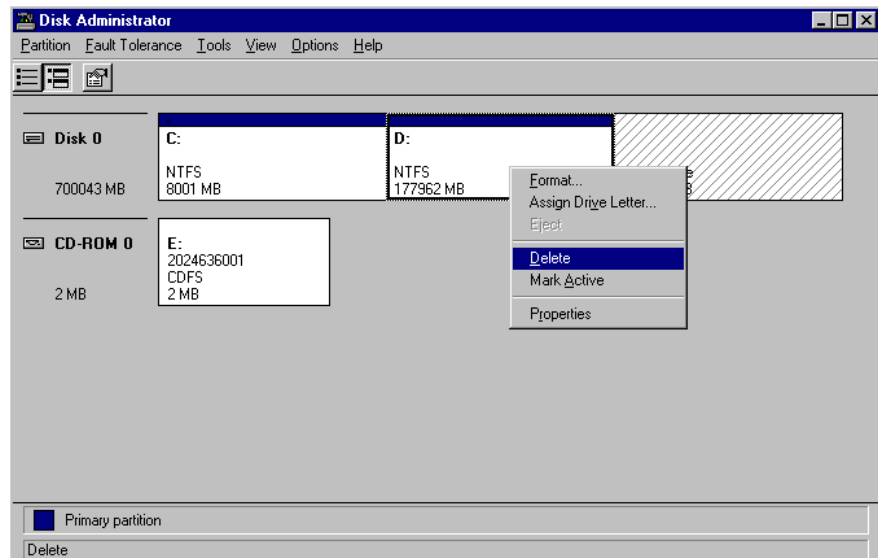

Figure 001
11. Right click on the *D:* drive and select *Delete* (see Figure 001).